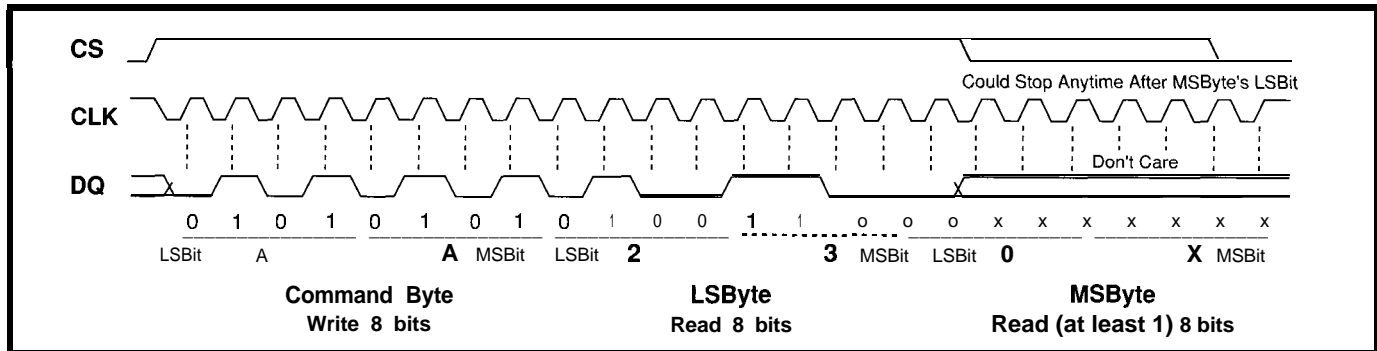

Figure 2—The timing diagram reveals a command byte where the next 9 bits come from Temperature Conversion and are transmitted.
- RST input is low. Taking 'RST high initiates a transfer in which the DS1620 accepts data on the first eight rising CLK cycles it sees. This first byte of data sent to the DS1620 will determine what happens next. There are nine possible command bytes, as shown in Table 3. You can examine this along with the 3-wire protocol that is illustrated in Figure 2.